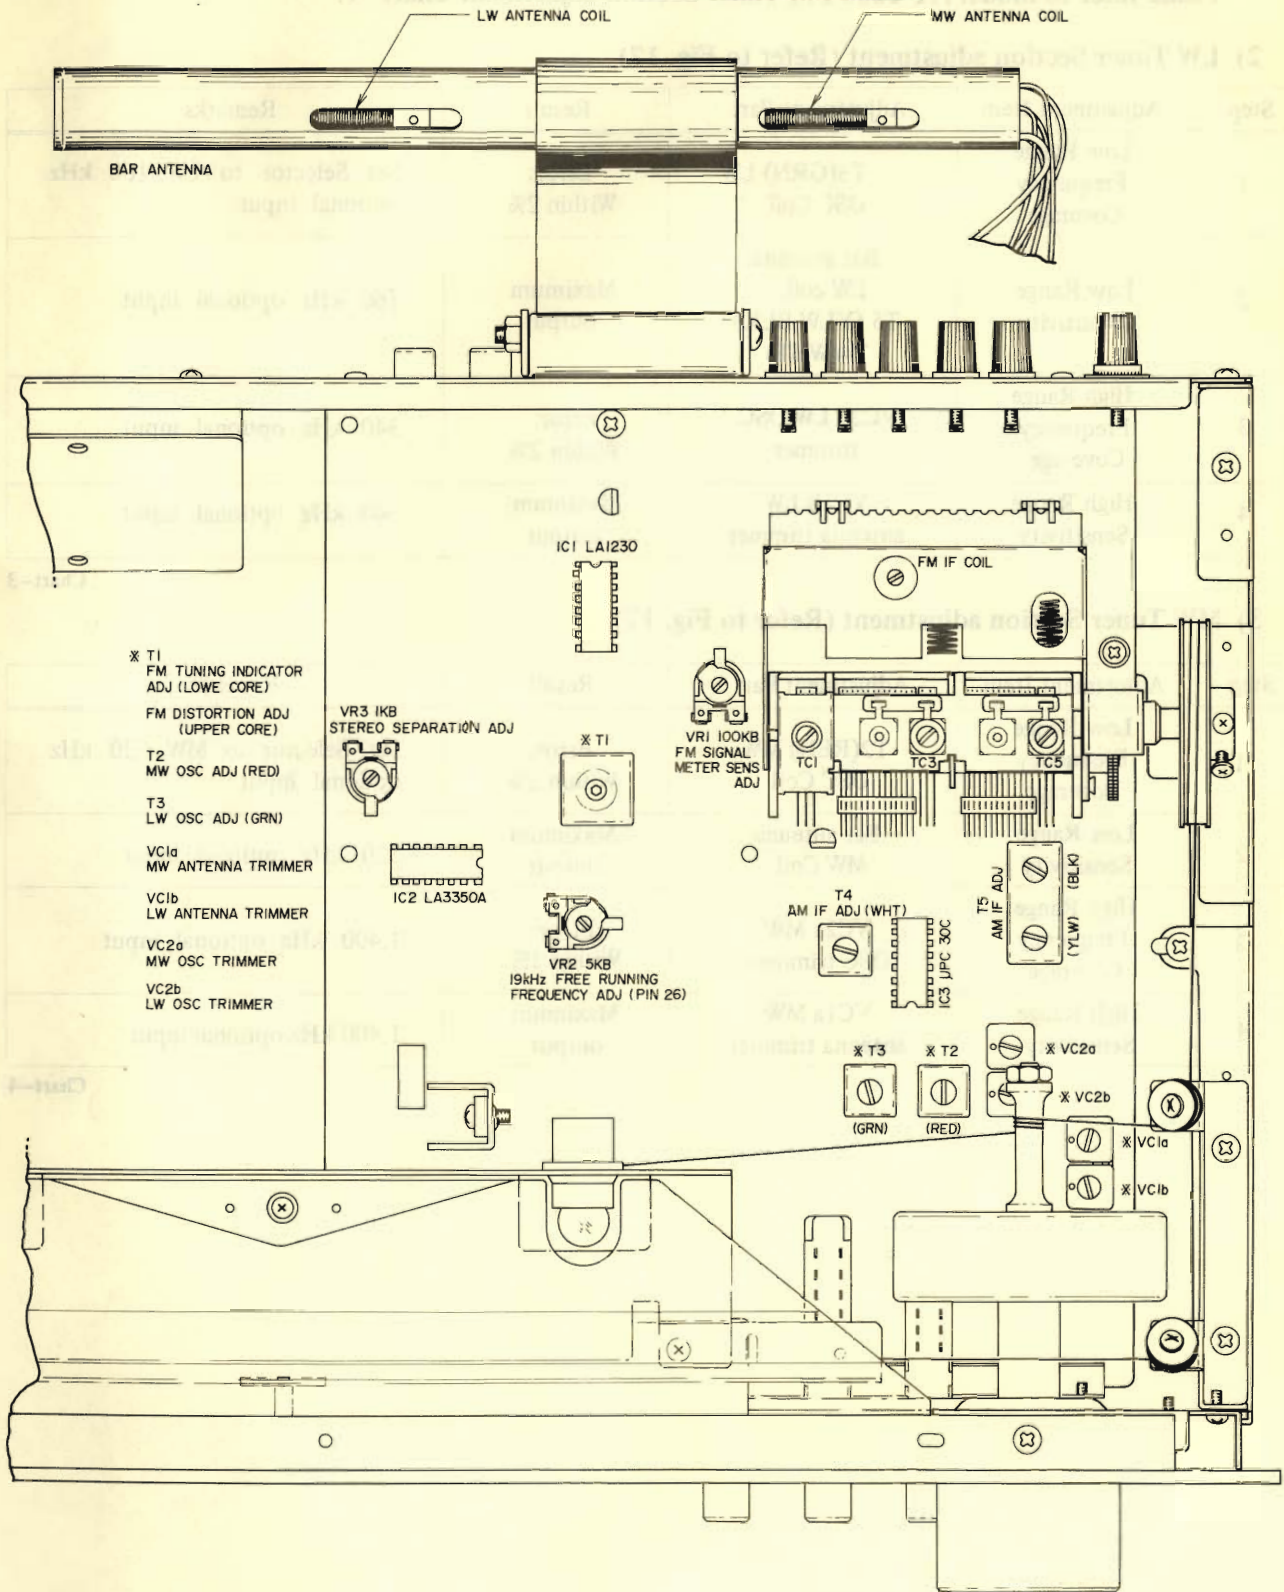

Fig. 17 AT-2200L Tuner P.C Board T2-5031A
1) FM Tuner Section adjustment (Refer to Fig. 17)
2) LW Tuner Section adjustment (Refer to Fig. 17)
3) MW Tuner Section adjustment (Refer to Fig. 17)